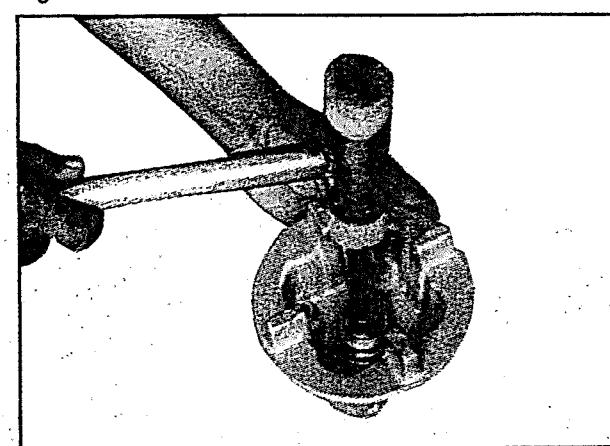

Fig 6.59
- Heat the sprocket drum on a hot plate to approximately 125° C and then draw out the bearing along with shaft rear sprocket mounting drive by a suitable mandrel (fig 6.58 and fig 6.59)